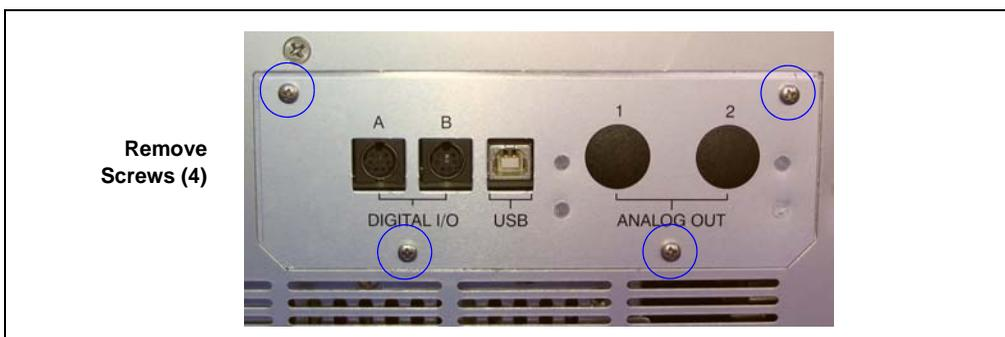

Figure B-9. Removing the DAC Access Panel
3. Remove the four screws indicated in Figure B-9 and remove the access panel on the detector's rear panel. Save the screws.